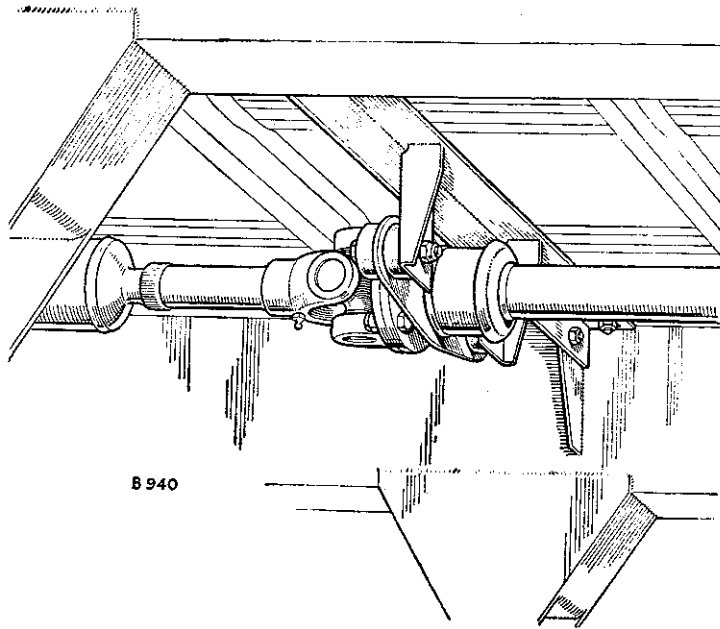

Fig. T-7—
- 107 and 109 models only. Secure the cross-member intermediate bearing support to the brackets welded to the chassis side members, using the bolts, spring washers and nuts provided. (Fig T-7.)